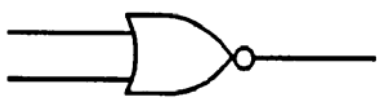

Figure Q-17. NOR Gate Symbol
(4) This arrangement also satisfies the definition of a NOR gate and tells us that $\overline{AB} = \overline{A} + \overline{B}$. The common symbol is shown in Figure Q-17.